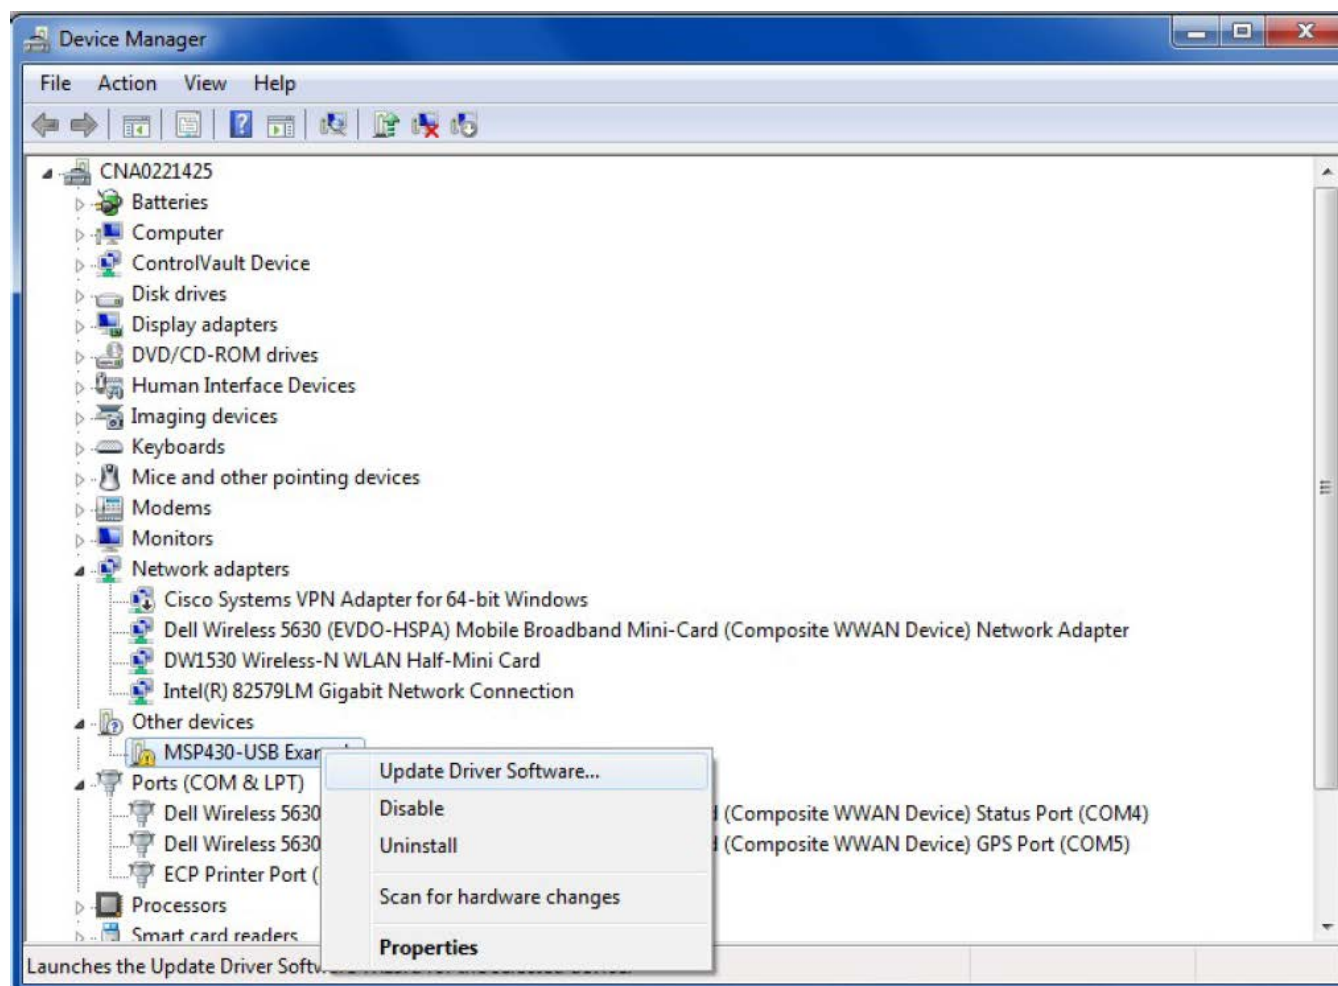

Figure 15. USB Driver Installation - Screen 1 (Windows® 7 or Windows® 8 OS only)
2. The Windows XP OS starts up the *New Hardware Wizard* to enable the user to install the USB driver for the new hardware. The Windows 7 or Windows 8 OS attempts to find the driver for the *new hardware found* automatically and if the driver is not found, there is no pop-up message to indicate that the driver installation failed. In the Windows 7, Windows 8, or Windows 10 OS, click on *Device Manager*, right click on the *MSP430-USB* example under *Other devices* and click on *Update Driver Software* as shown in Figure 15. This step is not required for the Windows XP OS.